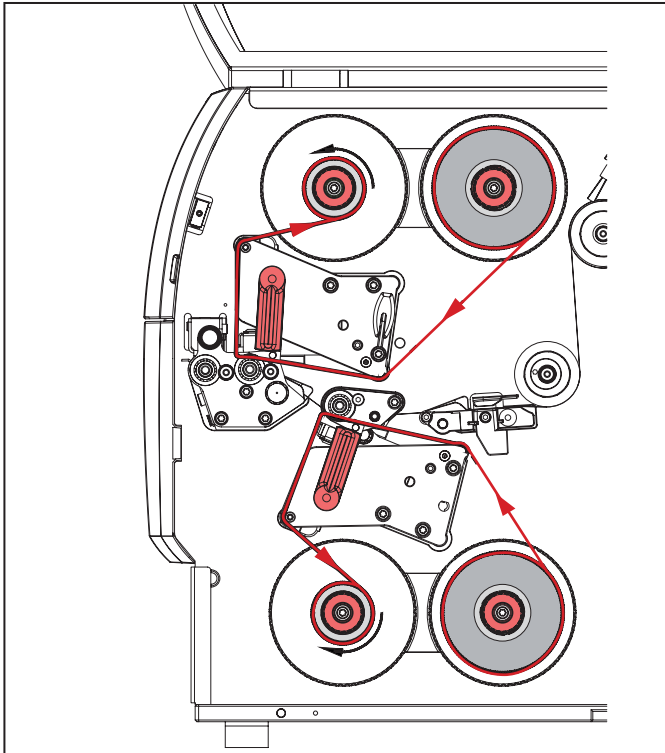

Figure 6.8 Transfer ribbon run
- Turn the lever (6) counter-clockwise to release the top printhead.
- Slide the transfer ribbon reel (1) onto the unwinder (2) so that the colour coating on the ribbon points down during unwinding.
- Position the transfer ribbon reel (1) on the unwinder so that the scale values on both sides of the reel are identical.
- Hold the unwinder (2) tight and turn the rotary knob on the unwinder (3) counter-clockwise until the transfer ribbon reel is fastened in place.
- Slide a suitable transfer ribbon core (4) onto the transfer ribbon winder (5) and fasten it in the same manner.
- Guide the transfer ribbon through the print assembly, see Figure 6.8.
- Fasten the start of the transfer ribbon on the transfer ribbon core (4) with an adhesive strip. Make sure that the transfer ribbon winder rotates counter-clockwise.
- Turn the transfer ribbon winder (5) counter-clockwise to smooth the transfer ribbon run.
- Turn the lever (6) clockwise to lock the printhead.
- If you want to print on both sides of the material, insert a transfer ribbon reel in the same way in the bottom print unit (7).